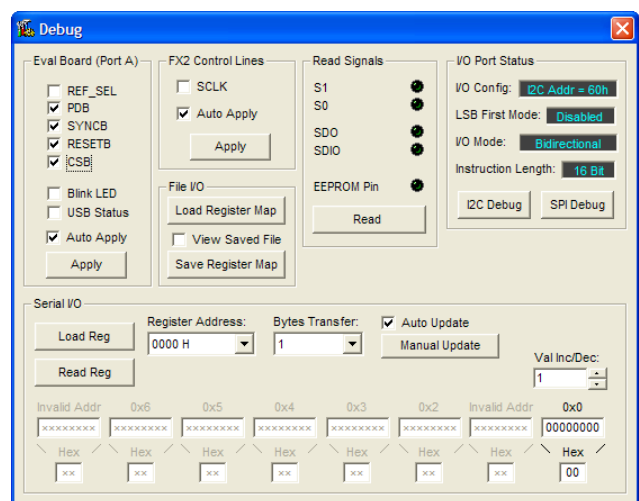
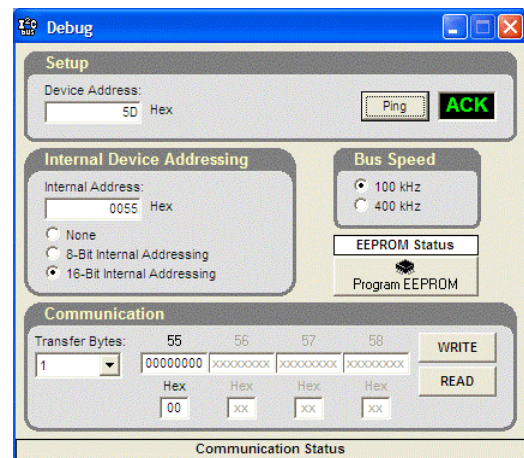

Figure 9. Debug Window
Figure 28. Evaluation Software I2C Debug Window
The **Debug** window, accessed by selecting **Debug Window** from the **View** menu, allows you to write and read registers directly and to force the various configuration pins high or low (see Figure 9).
7. From the **View** menu on the menu bar, select **Debug Window**. From the **Debug** window (see Figure 9), click the **I2C Debug** button under the I/O Port Status section. The window shown in Figure 28 appears.
8. Enter the I2C address set by Jumper P5 and Jumper P6 on the AD9523-1 evaluation board, and click **Ping**. The user should see a green **ACK** message as shown in Figure 28. Repeat this step for the I2C address of the target AD9523-1. If **ACK** is returned for both addresses, the remote AD9523-1 is ready to be programmed. If the ping test fails, double-check the cabling between the boards, as well as the I2C address of the target AD9523-1. Ensure that the I2C address of the AD9523-1 on the evaluation board is different from the target AD9523-1. Also, disconnect the jumper cable, and make sure that I2C mode is working properly on the AD9523-1 evaluation board.